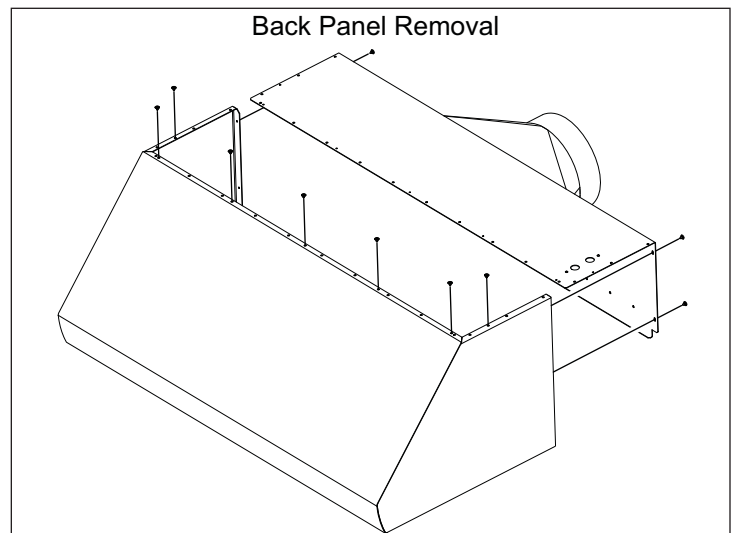

Figure 4
4. Remove the factory installed back panel from the hood by removing the screws on the top and back sides of the wall hood (save the screws as they will be used again). Then remove the electrical junction box from the factory supplied back panel and save the nuts holding the junction box on because they will be needed in order to transfer the junction box over to the new horizontal discharge kit back panel (See Figure 4).